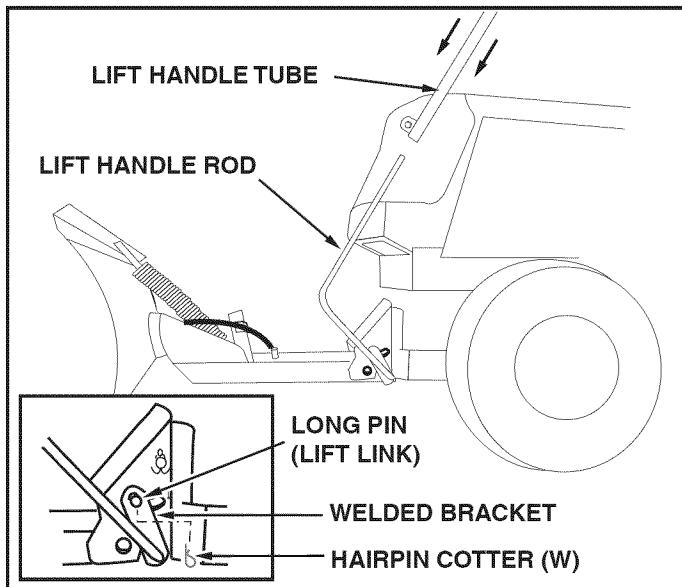

FIGURE 23 (Left Hand Side View)
STEP 9: (SEE FIGURE 23)
- Remove the hairpin cotter which fastens the lift handle rod to the lift link pin. See figure 23, page 12.